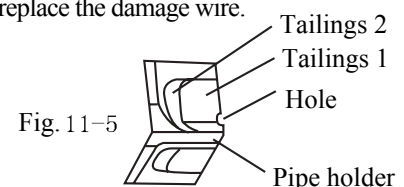
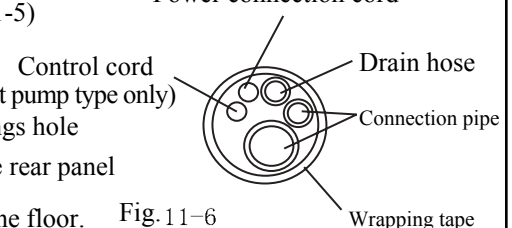

Fig. 11-5
Fig. 11-6
1. When routing the piping and wiring from the left or right side of the indoor unit, cut off the tailings from the pipe holder in necessary (shown in Fig.11-5)
- ① Through the tailings 1 when routing the wiring only;
- ② Cut off the tailing 1 when routing both the wiring and piping. (Heat pump type only)
2. Wrap the piping and wiring and pull them through the cut-off tailings hole (shown in Fig.11-6).